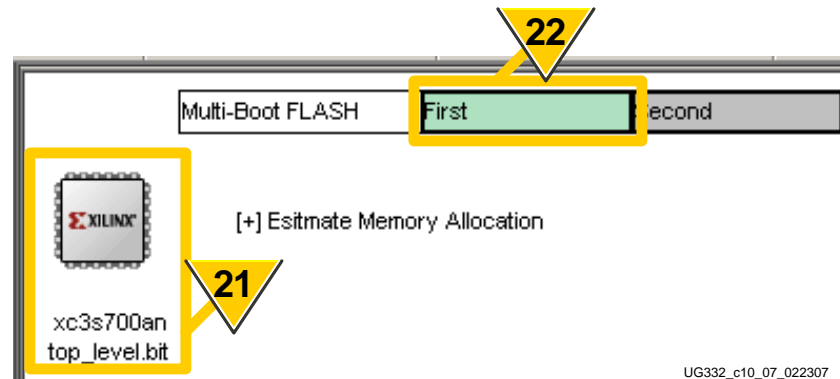

Figure 10-10: iMPACT View of the Spartan-3AN In-System Flash Memory
21. As shown in Figure 10-10, the iMPACT software graphically displays the selected Spartan-3AN FPGA and any associated FPGA bitstream(s).